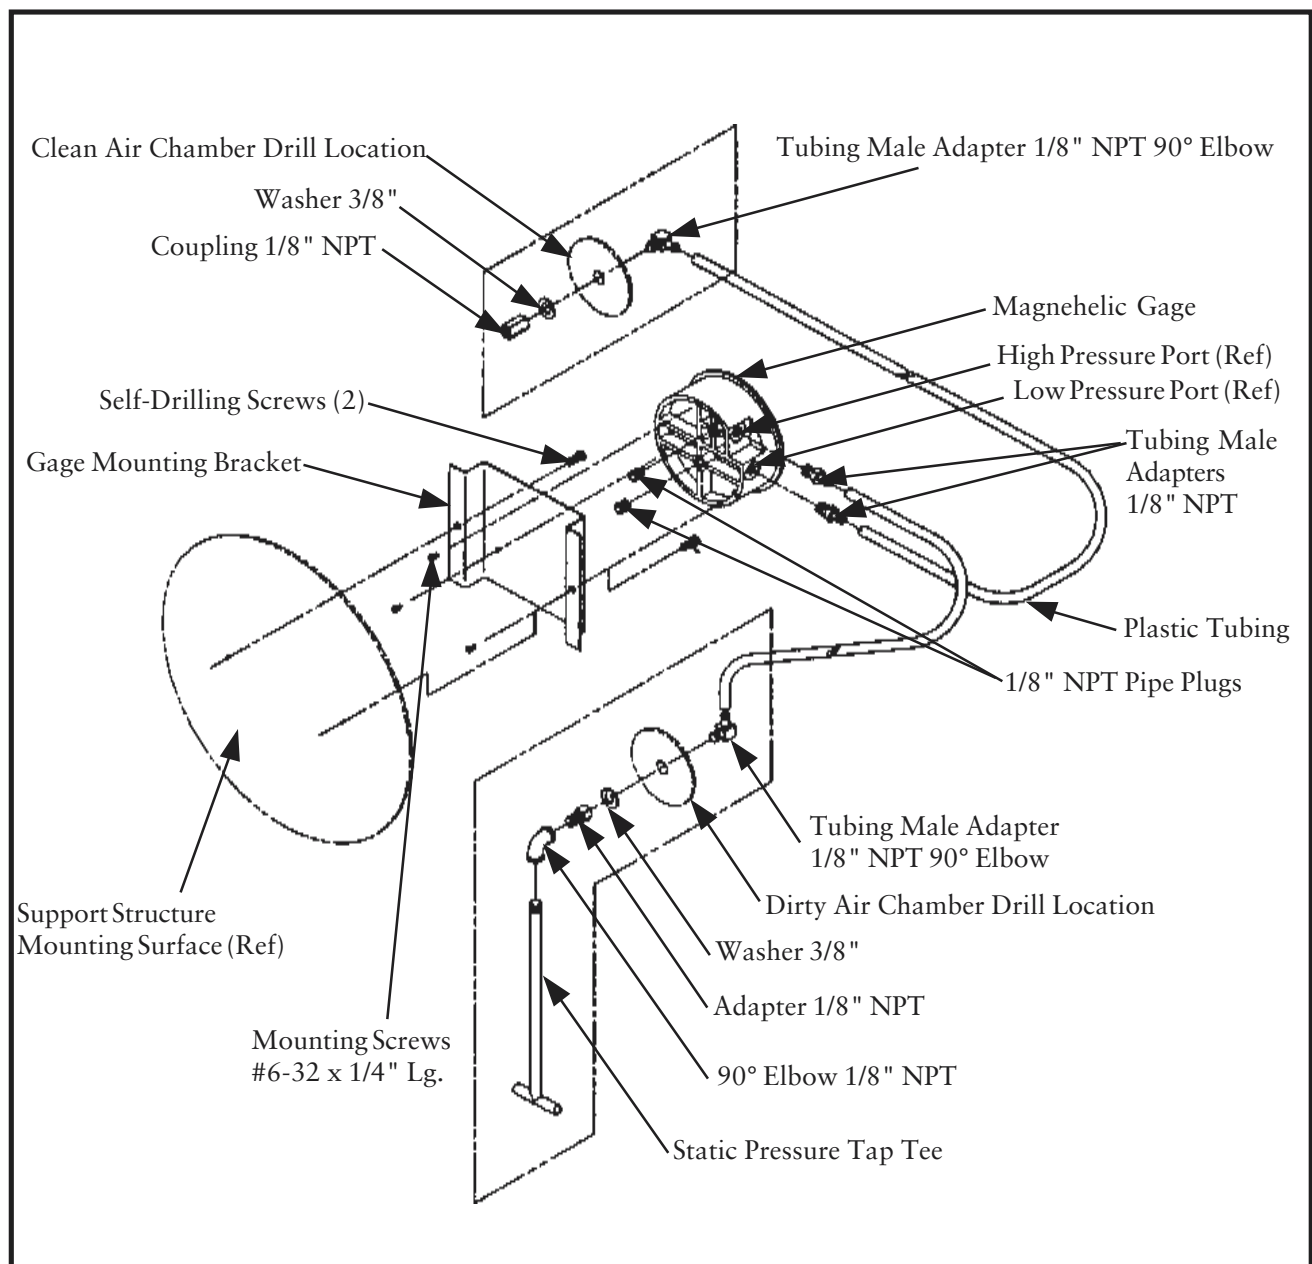

Figure 6
2.6.2 Magnehelic Gage (See Figure 6)
2. Prior to mounting, plug the pressure ports on the back of the Magnehelic gage using the two (2) 1/8" NPT pipe plugs (supplied with the gage). Next, install the two (2) 1/8" NPT tubing male adapters (supplied with the gage) into the openings on the side of the gage marked high and low pressure. Next, mount the gage to the mounting bracket with three (3) # 6 - 32 X 1/4" long screws (supplied with the gage), as shown in Figure 6, Installation of Magnehelic Gage.
Magnehelic gage. The high pressure port tubing is attached to the pressure fitting mounted in the dirty air chamber (filter section). The low pressure port is attached to the fitting in the clean air chamber. See Figure 6, Installation of Magnehelic Gage.